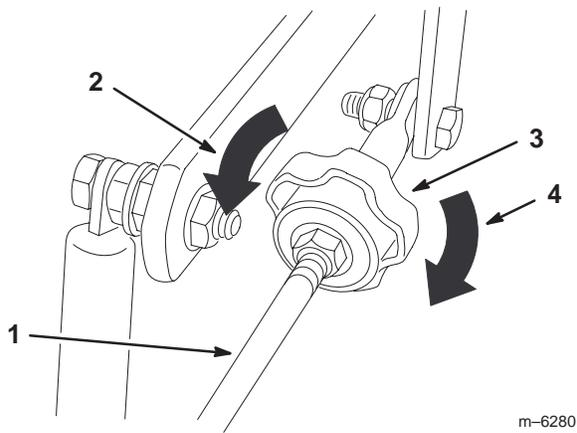

Figure 54
4. To make the machine go right, turn the knob towards the rightside of the machine. Refer to figure 54.
5. To make the machine go left, turn the knob towards the leftside of the machine. Refer to figure 54.